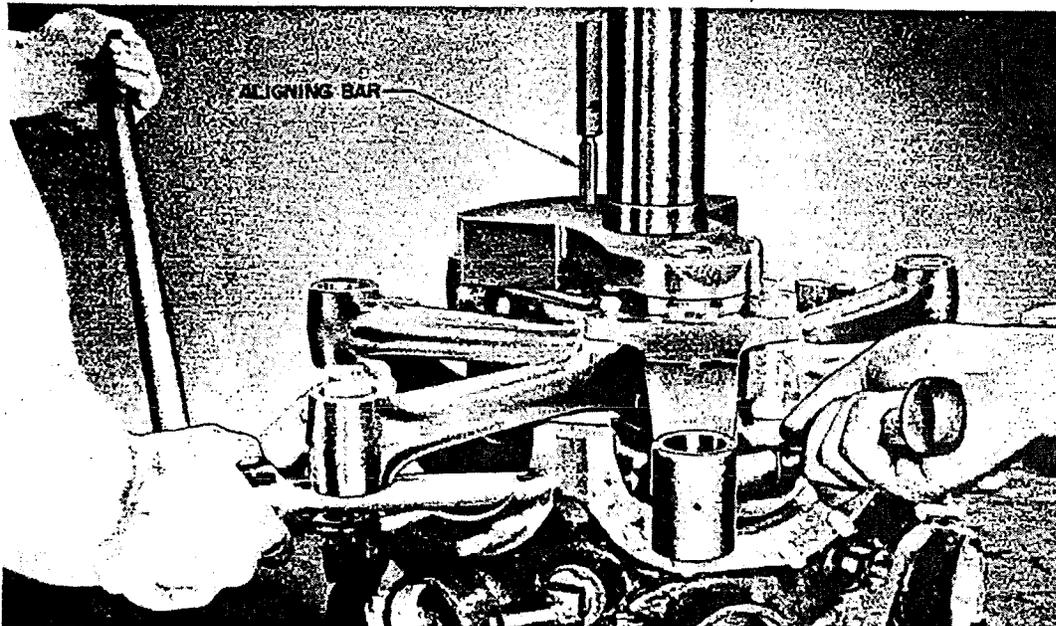
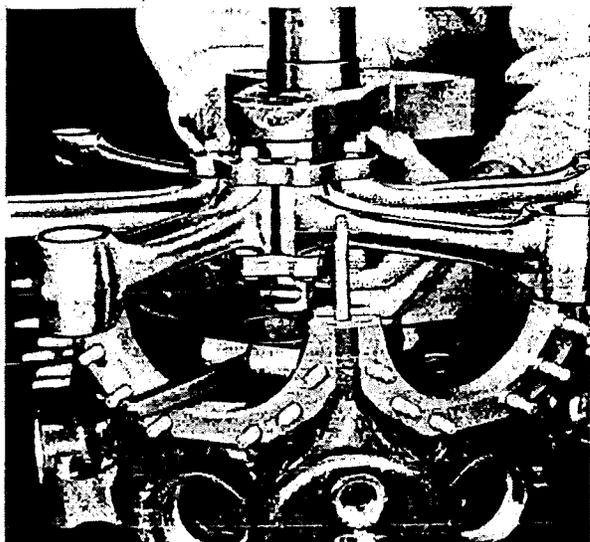

Figure 12 - Removing Crankshaft Clamp Bolt
Figure 13 - Removing Front Crankshaft, Master and Link Rod Assembly
(1) Remove the cotter pin in the crankshaft clamp bolt.
(2) Lock the crankshaft to prevent it from turning.
(3) Carefully unscrew the crankshaft clamp bolt nut with Wrench (Tool No. T-344). Refer to Figure 12.
(4) Tap out the crankshaft clamp bolt, using a fibre drift.
(5) After Clamp Bolt has been tapped out, drive the Wedge (Tool No. T-18000), carefully into the slot in the rear half of the crankshaft just enough to slightly spread the opening in the rear half of the crankshaft. Make sure wedge does not mar the crankpin.
(6) Carefully lift off the master rod assembly, together with the front half of the crankshaft. Make sure that the master rod assembly is held tightly against the crankcheek of the front half crankshaft at all times. Refer to Figure 13.
(7) BEFORE REMOVING MASTER ROD ASSEMBLY from crankshaft, carefully inspect end of crankpin for any burrs or rough spots. If any burrs or rough spots are found they should be carefully removed. Any roughness on the end of the